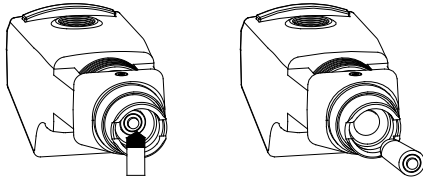

Fig.3
Remove instrument head from battery handle(1). The bulb is in the bottom section of the instrument head. Remove bulb, by using your thumb and forefinger or a suitable tool, from instrument head. Insert new bulb (7) to the hole of the head of the case. The type of bulb is 3.5 V/2.7 W. Refer to Fig.3.